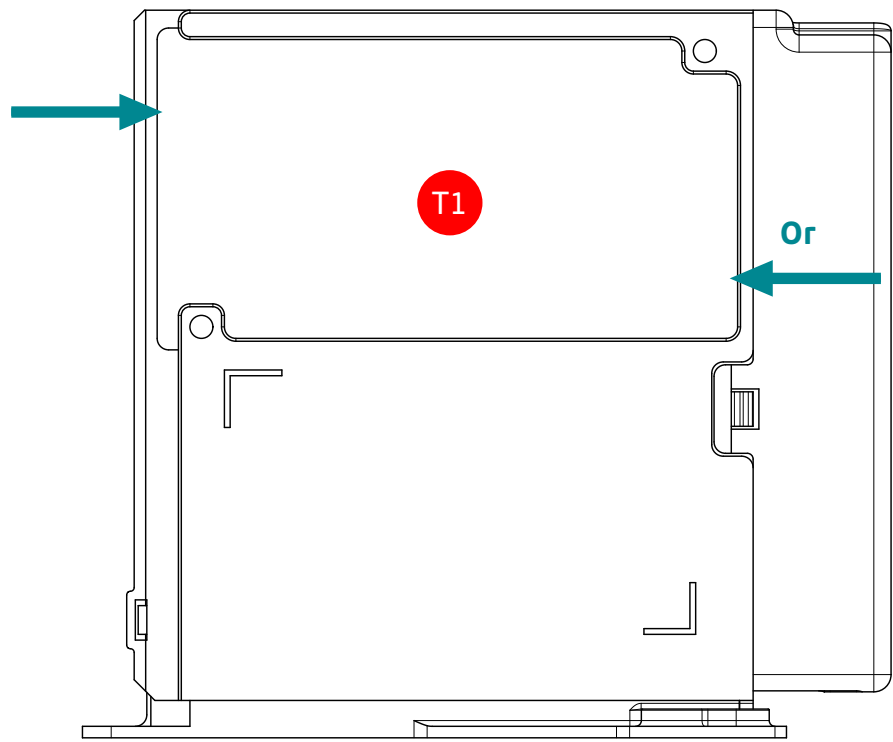

Figure 3.35: Inverter air flow direction
The acceptable air flow directions in the Inverter heat sink are shown in Figure 3.35.
- During the refrigerator system's development, the ambient temperature of inverter compartment (measured 50 mm distance from heatsink) and inverter Input Power must respect the maximum ratings provided in Table 2. When operating with forced ventilation, the temperature of heatsink pointed in Figure 3.35 must not exceed 85 °C.